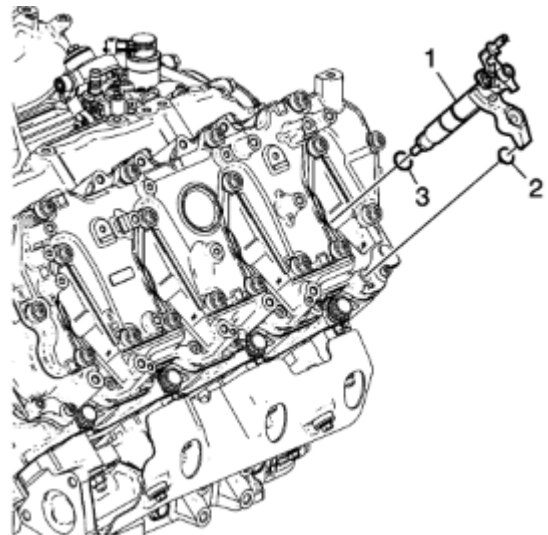

Fig. 53: Fuel injector removal
- c) Remove the fuel injector bracket pin (item 2 in figure 53). Remove the copper washer from the injector bore and discard. Remove the o-ring seal from the fuel injector (item 3 in figure 53) and discard.